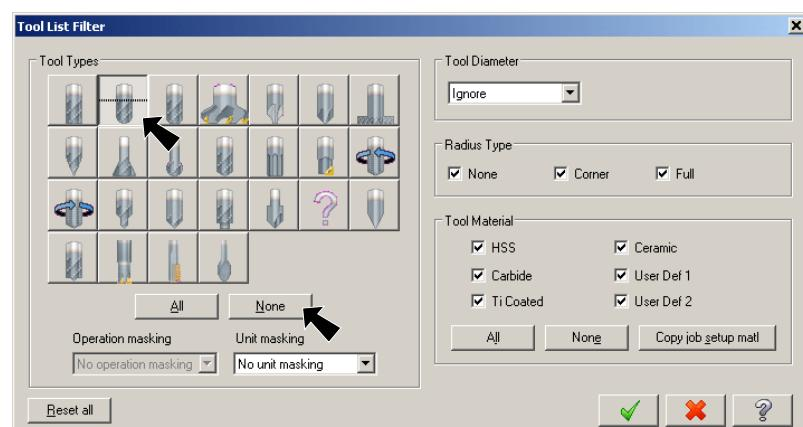

Fig. 13
Step 12. Click **None button under Tool Types, Fig. 13.**
Step 13. Click **Endmill2 Sphere** button second button top row), **Fig. 13** and click OK.